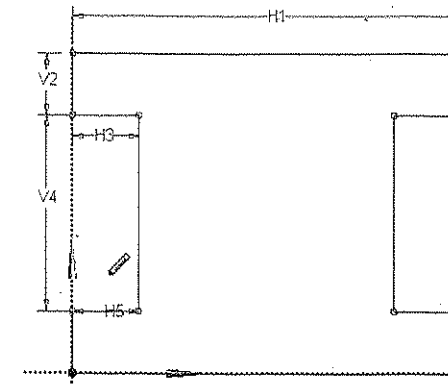

Figure 3-30 Over-constrained sketch
1. When line 11 is selected for dimensioning, the **Geometry - DesignModeler** warning message box is displayed, as shown in Figure 3-29. This message states that placing this dimension will over-constrain the sketch and you can edit and place this dimension as a reference. On choosing the **OK** button from the warning message box, the dimension of line 9 will turn red, indicating that the sketch is over-constrained, as shown in Figure 3-30.